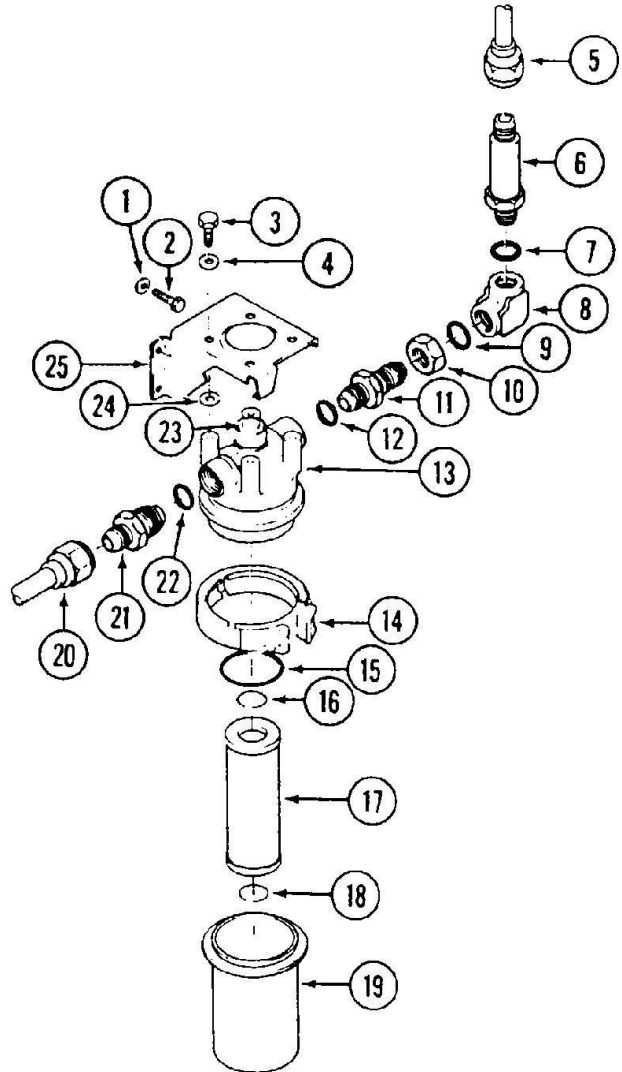

Figure 63-25. Transmission External Oil Filter
63.5.9.1.2 Place a suitable container under external filter body (19, Figure 63-25) to catch spilled oil.
63.5.9.3.1 Examine the oil filter element (17, Figure 63-25) for contamination. If the metal particles are present, refer to paragraph 63.1.2. Do not reuse the element.
63.5.9.4.1 Install filter head (13, Figure 63-25) (if removed) with outlet port aft. Use four spacers (24) between bracket (25) and head (13), and secure with bolts (3), washers (4), and lockwire (C-405). Remove plugs and caps and connect oil tube (20) from cooler to reducer (21) in filter inlet. Connect transmission hose (5) to fitting (6) in filter outlet.